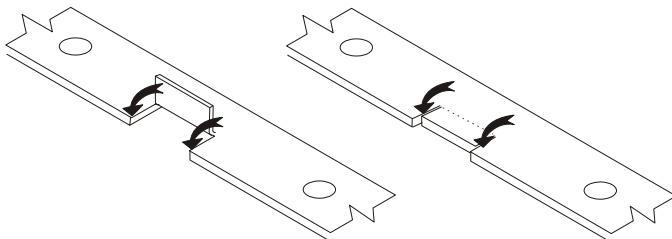

Figure 2.2
- Bend the PCM locating tab on the fender down so that it is flush with the surface (Figure 2.2).